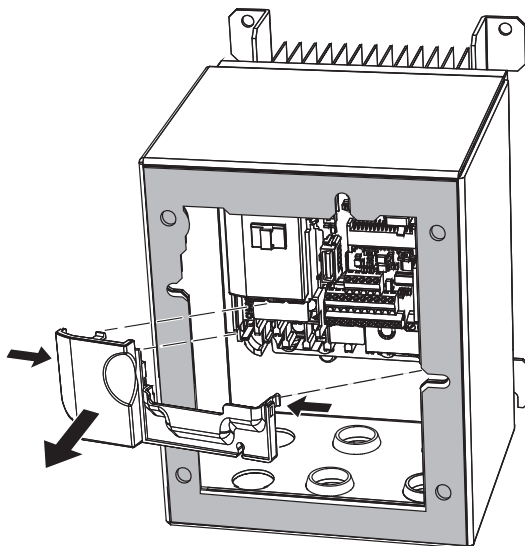

Figure 13 Remove IP66/UL Type 4X Lower Terminal Cover
- 11.** For IP66/UL Type 4X enclosure models, remove the lower terminal cover from the drive, if provided. Apply pressure using fingers on the left and right tabs. Lift and pull the cover forward to release (see Figure 13).